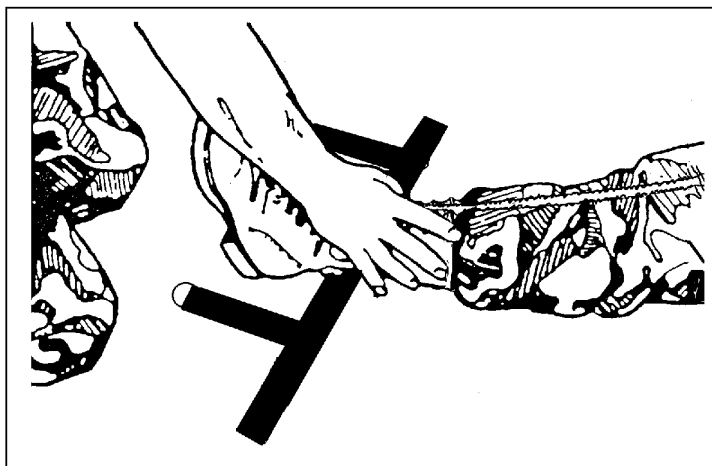

Figure 3-28
- b. Thread the ankle hitch under the casualty's ankle at the void created by the heel. (See Figure 3-28.)